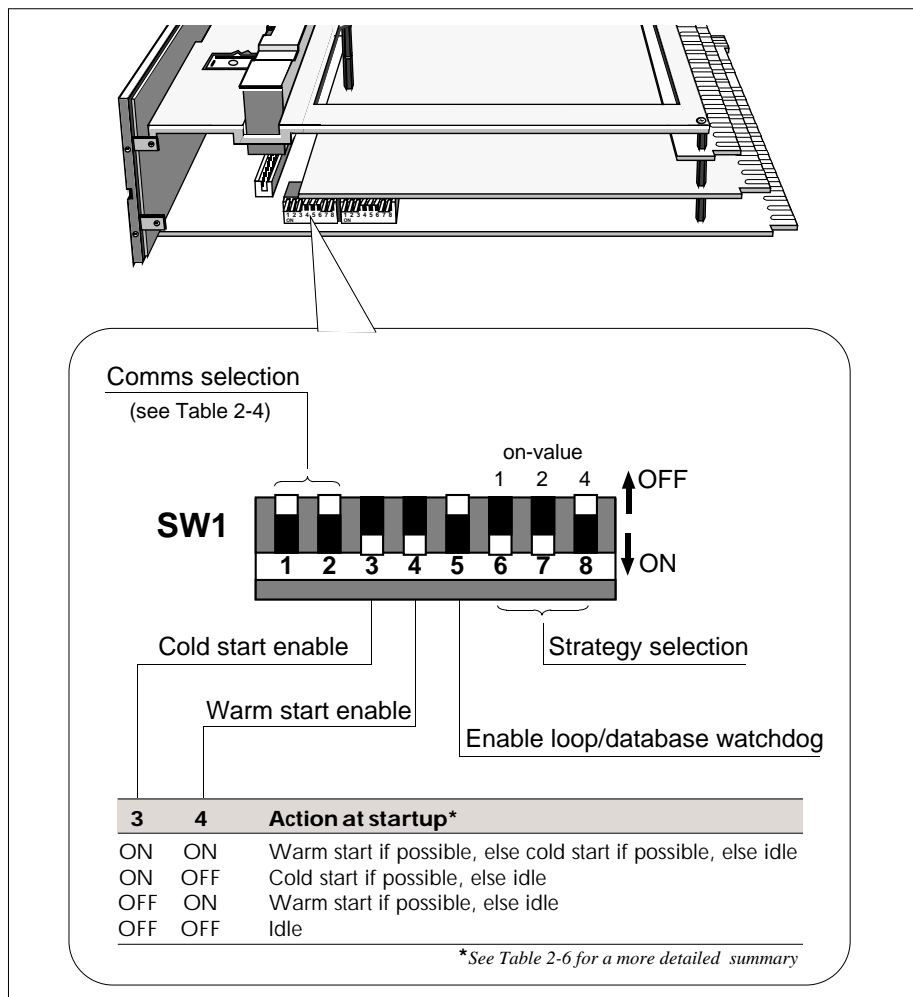

Figure 2-12 SW1 location and functions
Figure 2-12 shows the location and functions of the eight switches in DIL switchbank 1.
- Switches 6, 7, and 8 select the number of a preconfigured ‘standard’ strategy to be loaded to RAM and if possible run in the T640. The strategy selected is the sum of the ‘values’ of the three switches (OFF = 0, ON = ‘value’ as shown in Figure 2-12). E.g. strategy #3 has been selected in the figure. Setting these three switches all OFF prevents any standard strategy being loaded. Running standard strategies is explained in Chapter 5, *Standard strategies*.
The location of SW1 was shown in Figure 2-12, and the functions of switches 3 and 4 briefly summarised. Table 2-6 below provides more detail on the effect of the four possible switch setting combinations.